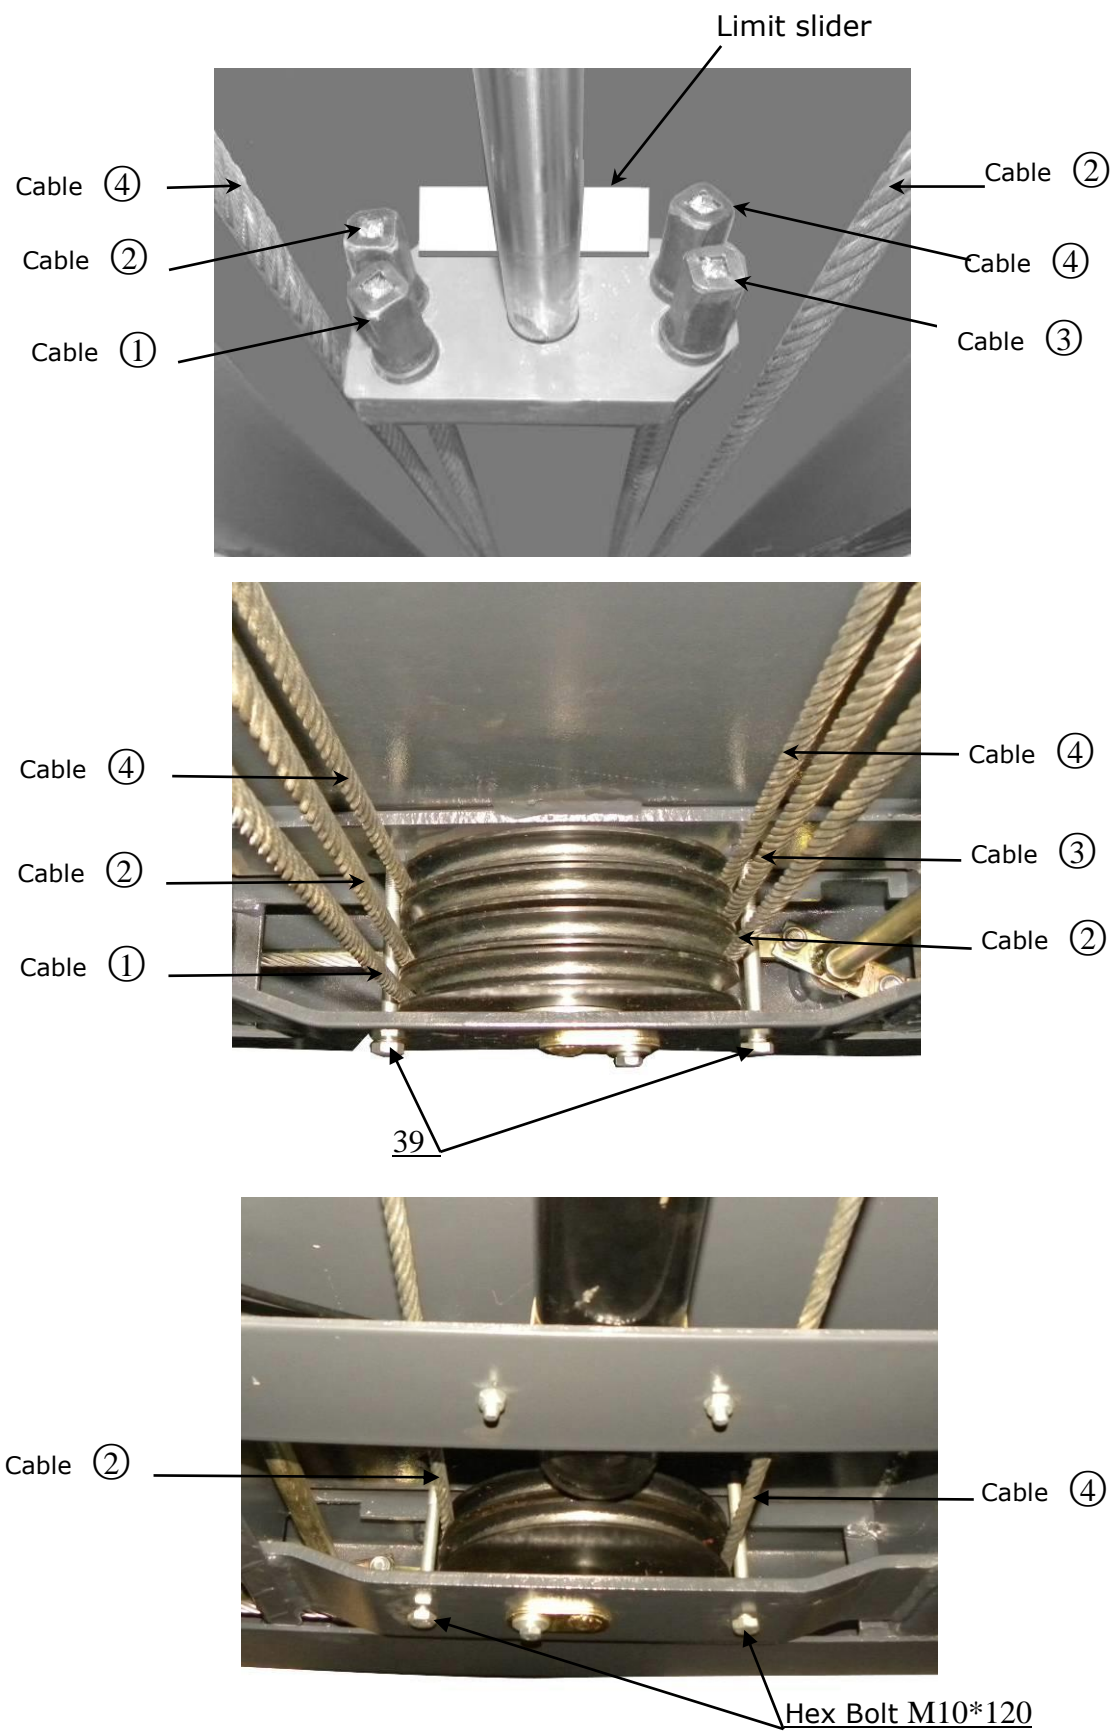

Fig. 21
3. Illustration for platform cables (See Fig. 21).